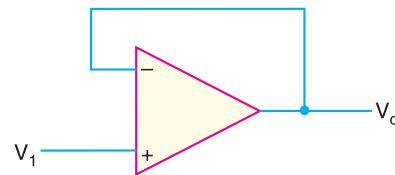

Fig. 25.107
14. What output voltage results in the circuit of Fig. 25.107 for  $V_1 = +0.5 \text{ V}$ ?